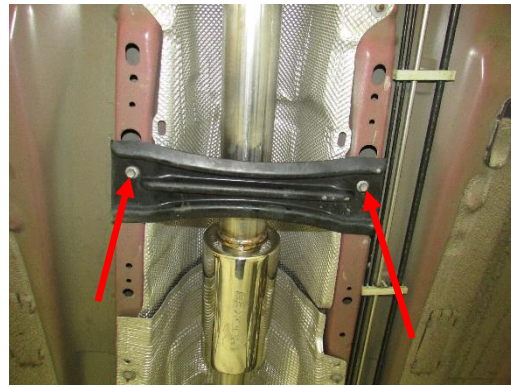

Figure 7
2. Install the cross brace and tighten (x2) 10mm head bolts (**Figure 7**).